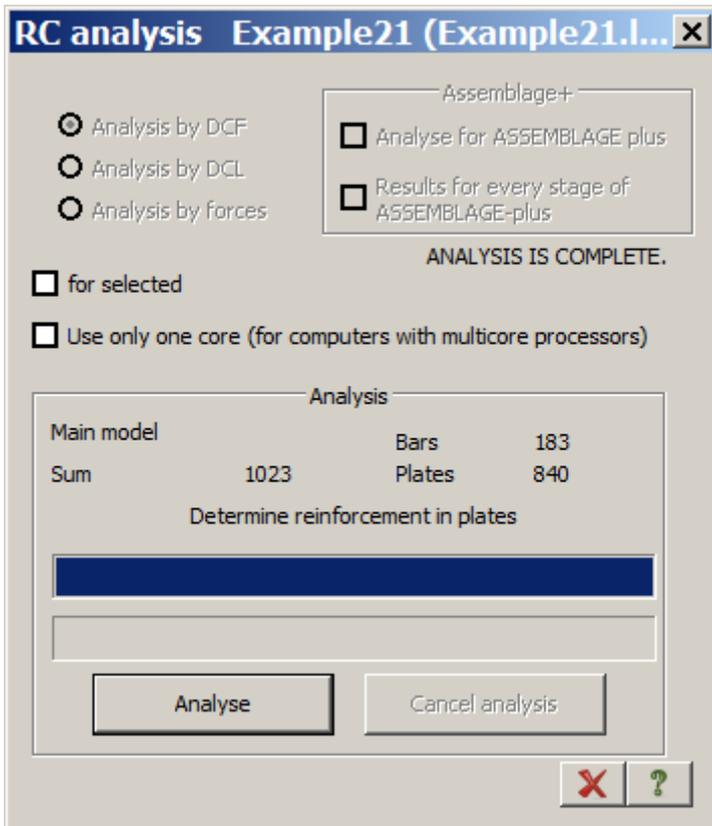

Figure 21.24 RC analysis dialog box
- ⇒ In the **RC analysis** dialog box (see Fig.21.24), click **Analyse**.